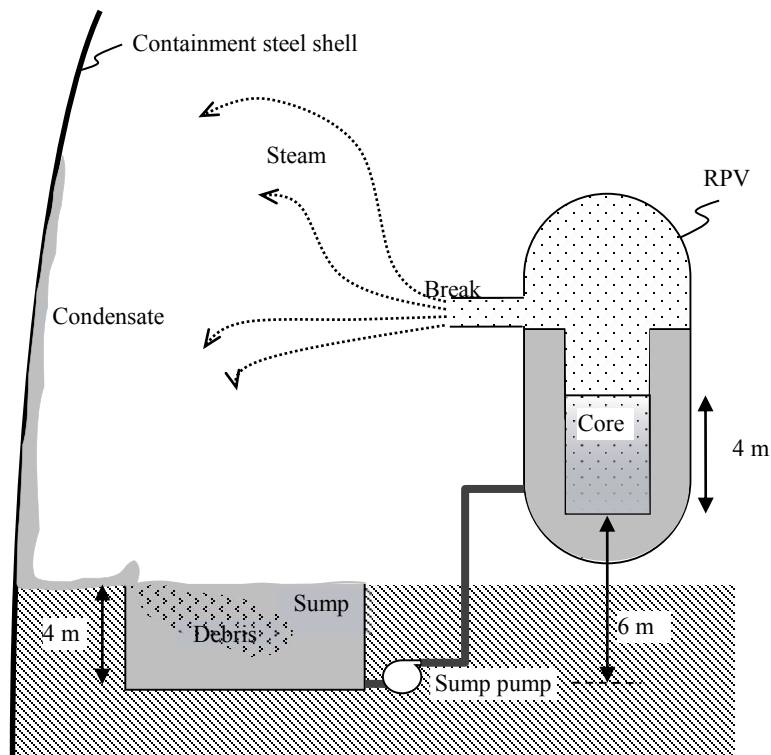

Figure 2. Post-LOCA recirculation within containment
The occurrence of a Large-Break Loss of Coolant Accident (LB-LOCA) in a Pressurized Water Reactor (PWR) would cause the generation of large amounts of debris within the containment, i.e. mostly fibers from the insulation around primary system pipes and components. Such debris would be washed to the containment sump along with any dirt normally present within the containment. Water that accumulates in the sump is used by the Emergency Core Cooling System (ECCS), i.e. the sump pump injects that water into the reactor vessel. This situation is shown schematically in Figure 2. There is a concern that the debris could be transported to the core by the sump pump and there clog the fuel channels, thus preventing core cooling in the long term. To minimize the probability of debris transport, it is desirable to limit the coolant flow rate from the sump pump to the minimum flow rate required to remove the decay heat.
Steam exits the primary system through the break and is condensed somewhere in the containment; the condensate drips back into the sump, from which it is pumped to the core, effectively realizing a loop (see Figure 2).
- Consider gravity pressure changes throughout the loop. Relevant elevations are shown in Fig. 2.